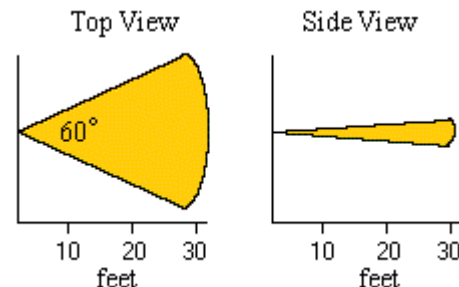

Figure 2 Infrared occupancy sensor's approximate detection angles and ranges
- Place the motion detector (with Hobo Volt plugged in) in a location that will allow it to "see" people moving within the space. Note that the motion detector has a wide horizontal view, but a narrow vertical view (fig 2). It is capable of detecting motion up to 30 feet away. It detects motion best when a person moves across the view rather than directly towards or away from the sensor. **DO NOT** place the sensor where it will be struck with direct sunlight, where it will experience extreme temperatures or where it will "see" people moving outside the space you are analyzing. The LED light on the sensor allows you to test its sensitivity and view range.